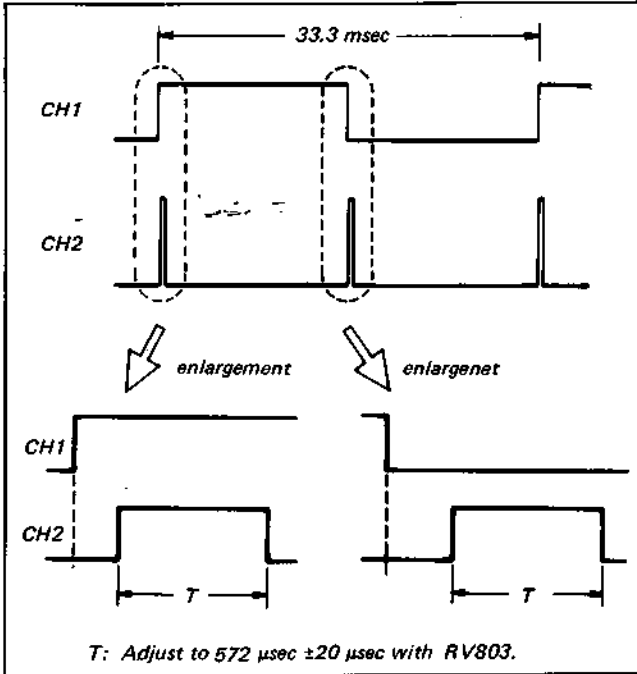

Fig. 5-23. VD adjustment
- (1) Adjust as shown in Fig. 5-23 with RV803.